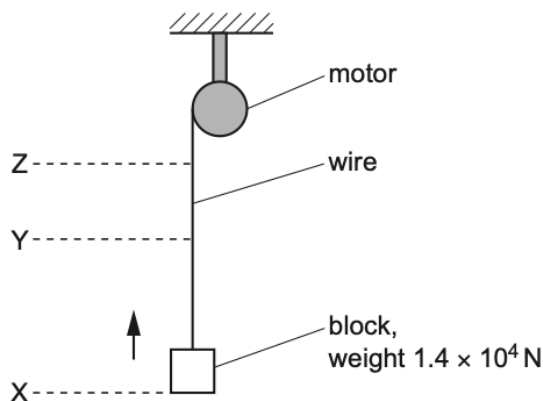

Fig. 2.1 (not to scale)
- 13 A motor uses a wire to raise a block, as illustrated in Fig. 2.1.